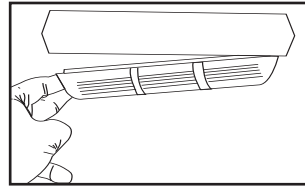

fig. 3
### Replacing the Light Bulb (fig. 3)
2. Remove the plastic light shade located inside the freezer by lightly pressing to the left side. (see fig. 3)